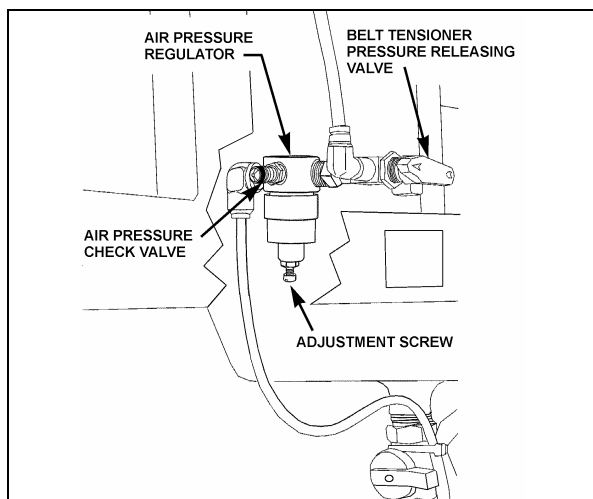

FIGURE 8: BELT TENSIONER VALVE
5. Locate the A/C compressor belt tensioner pressure releasing valve (Fig. 8). Turn pressure releasing valve handle counterclockwise in order to release pressure in belt-tensioner air bellows and loosen belt. Remove the A/C compressor belt.